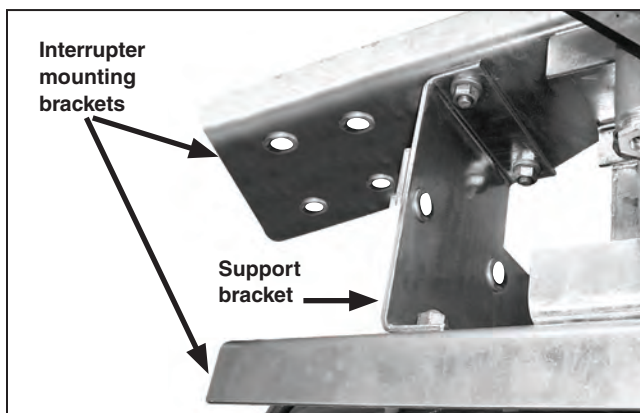

Figure 6. Install the interrupter support bracket between the interrupter mounting brackets.
- STEP 7.** Install the interrupter support bracket between the two interrupter mounting brackets using the  $\frac{5}{8}$ -11 $\times$ 2 $\frac{1}{4}$ -inch hex-head galvanized steel cap screws furnished. See Figure 6.